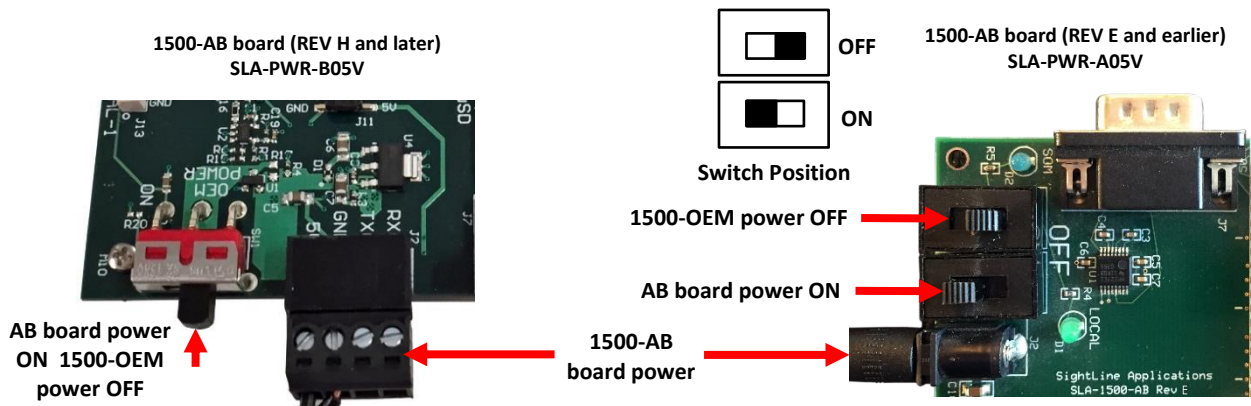
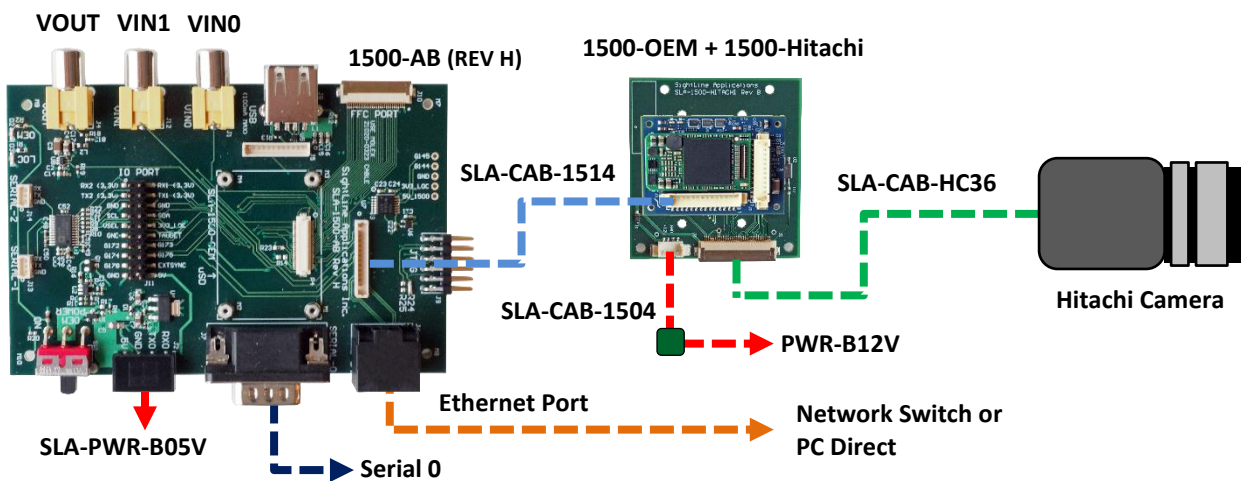

Figure 2: 1500-AB Board Power Connections
Figure 3: 1500-OEM Hitachi Block Camera Bench Setup
REV H and later 1500-AB boards have a single power switch. REV E and earlier boards have a dual power switch. REV H and later boards are immediately powered on when power is connected. If using the 1500-AB board in a bench setup, review Figure 2 and Figure 3 prior to making power connections.
- ⚠ **CAUTION:** Power to the 1500-OEM board is provided through the 1500-Hitachi interface board using the SLA-PWR-B12V power supply shown in Figure 3. Powering the OEM through the J3 power pins and through the 1500-Hitachi board can damage the OEM.
- ⚠ **CAUTION:** DO NOT power up the 1500-OEM board from the 1500-AB interface board. The power switches should be set to the positions shown in Figure 2 (AB board power ON / 1500-OEM power OFF). Long term over powering will permanently damage the 1500-OEM board.
**ⓘ IMPORTANT:** Do not apply power to the 1500-OEM from the AB board, see Figure 2.